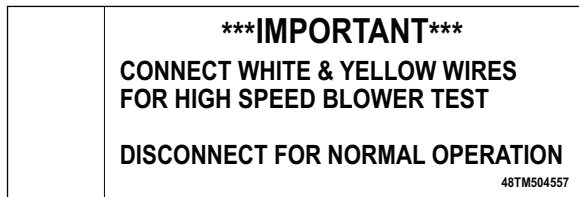

Fig. 25 — High Speed Test Label
4. Locate and connect the WHT and YEL wires extending from the VFD. The two wires are bundled together using the label shown in Fig. 25.